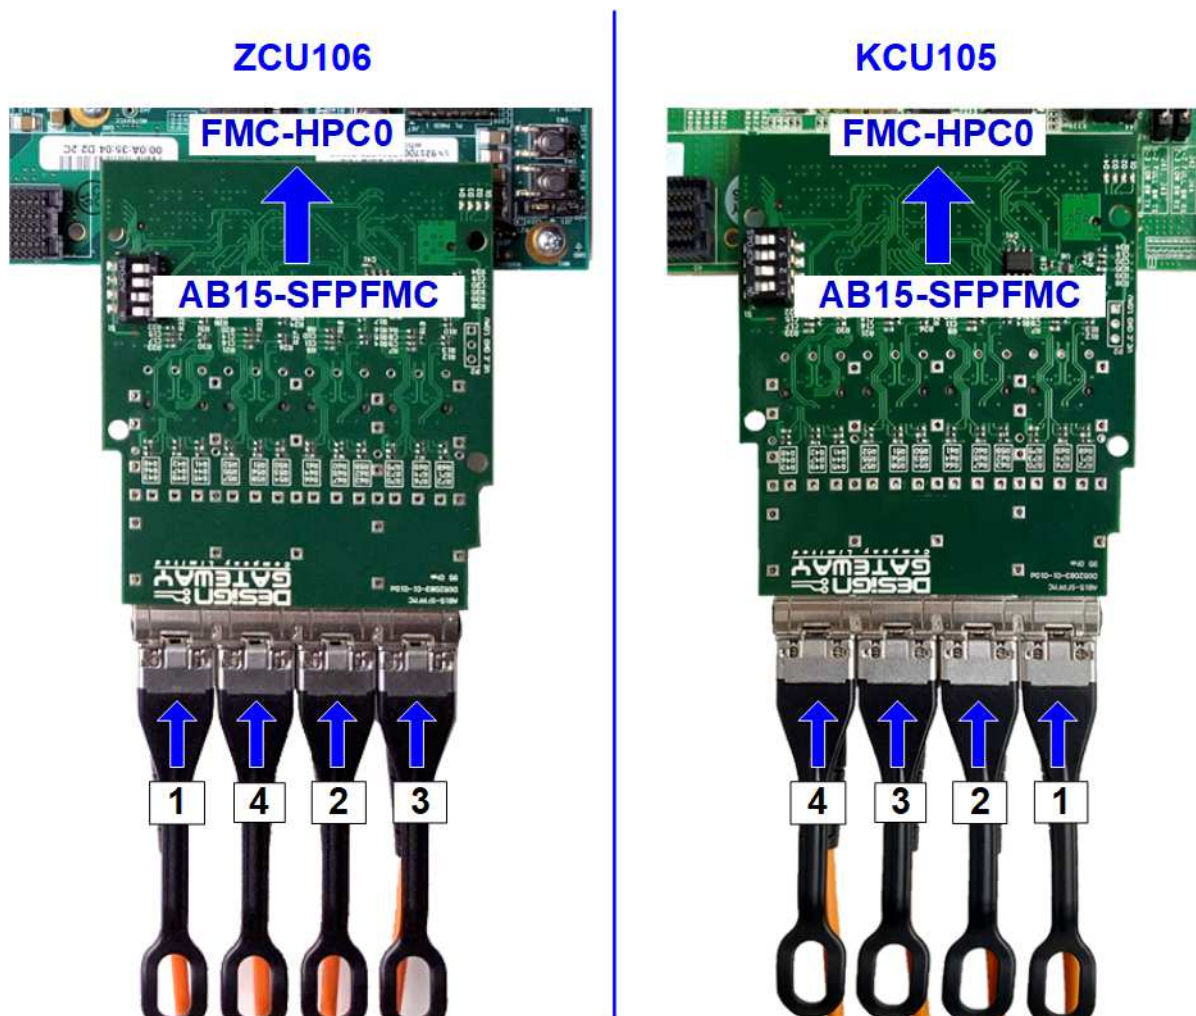

Figure 4-4 Four SFP+ cable connecting to ZCU106/KCU105 board
- b) For ZCU106/KCU105, insert AB15-SFPFMC adapter to FMC-HPC0 on FPGA board. After that, insert four SFP+ cable to SFP+ on AB15-SFPFMC adapter. Please check channel number of four cables to match with Figure 4-4 for each board.